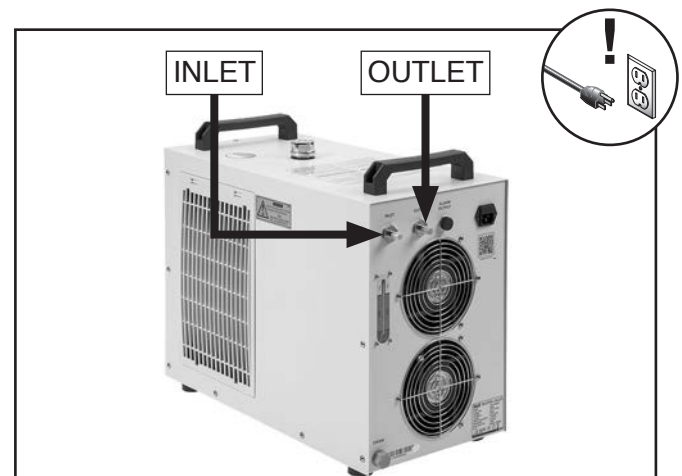

Figure 93. Location of water chiller ports.
3. Disconnect water hose at INLET port of water chiller, and place end into bucket to collect water runoff (see **Figure 93**).